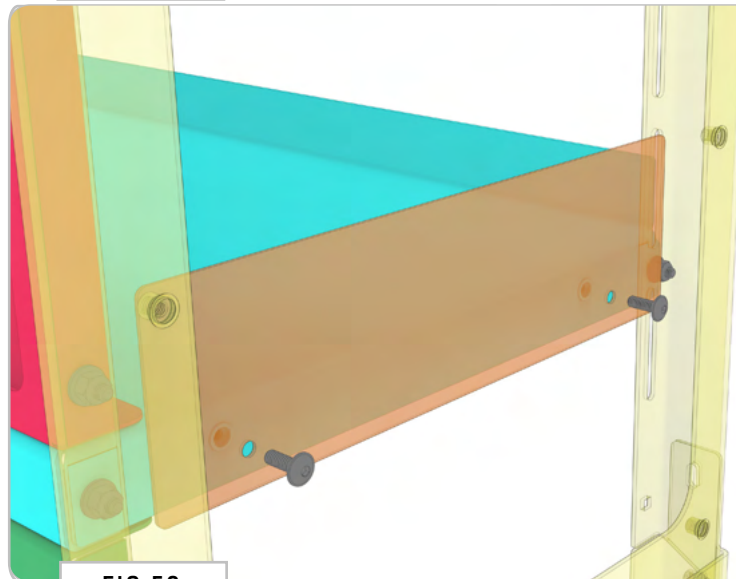

FIG 52
**3.9 Attach Shelf Covers to Middle Tray:** Attach the **Shelf Cover Plates** to the pre-threaded locations of the **Middle Tray** using (2ea) 1/4-20 x 0.75 Flanged Button Head Screws (FIG 52).